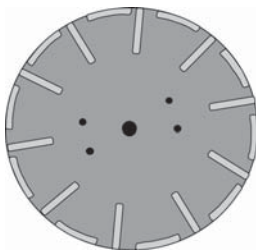

Figure 8
- Inspect the disc (Figure 8) periodically to determine it's wear characteristics, if signs of uneven wear appear the cause should be determined and corrected. If repairs are needed contact EDCO or your EDCO representative.